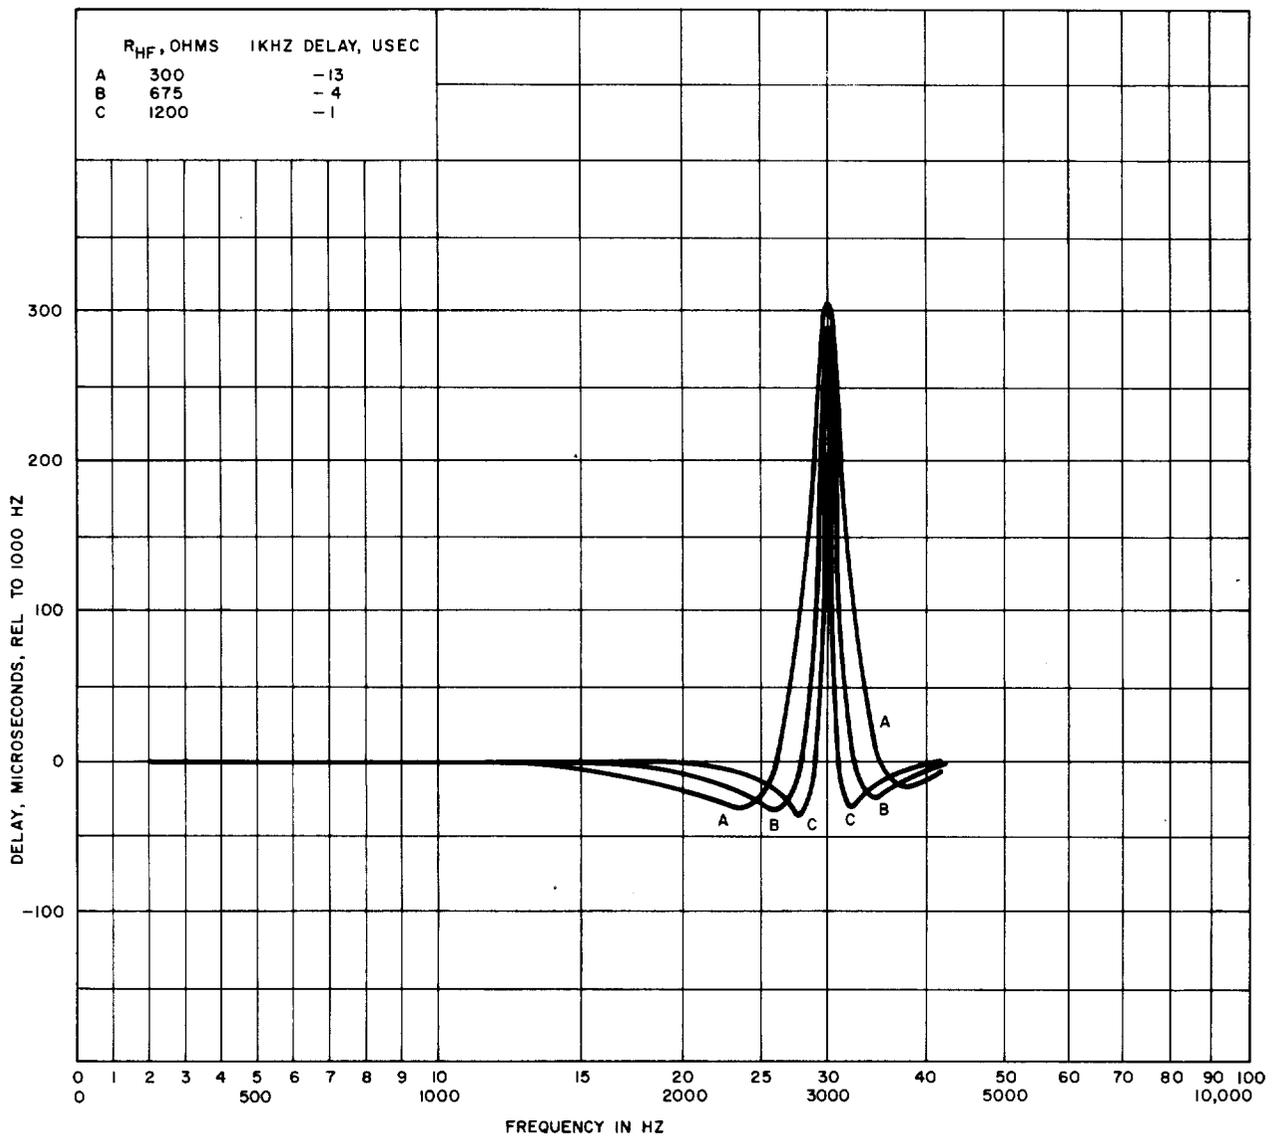

Fig. 9—359A Equalizer—High-Frequency Section Delay-Frequency Characteristics Between 600 Ohms—at Various Settings of R_{HF}
3.08 While the shunt arm high-frequency components provide compensation for amplitude distortion, they introduce delay distortion at the same time. Fig. 9 illustrates typical delay-frequency characteristics obtained by varying R_{HF} .